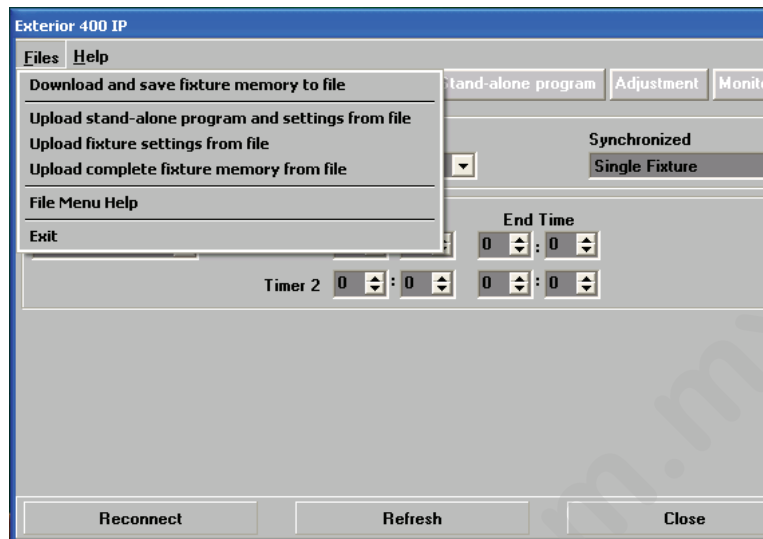

Figure 17: Managing fixture settings and stand-alone programs as files
2. Download and save this fixture's memory (program and settings) to your PC using MUM's Files menu (see Figure 17), and then